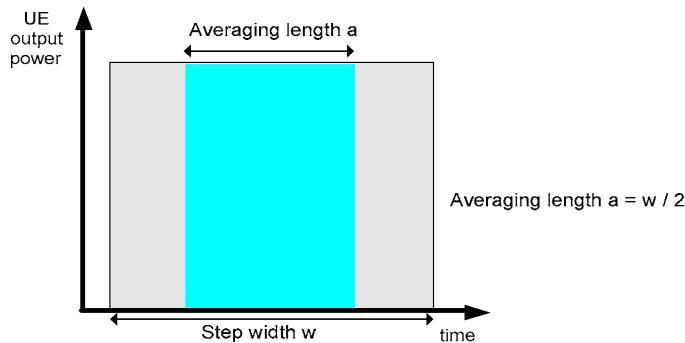

Fig. 3 Averaging length
- Step Width** Duration of each TX or RX power step. The step width has an impact on the averaging length for the TX calibration measurement; see Fig. 3 on p. 6.